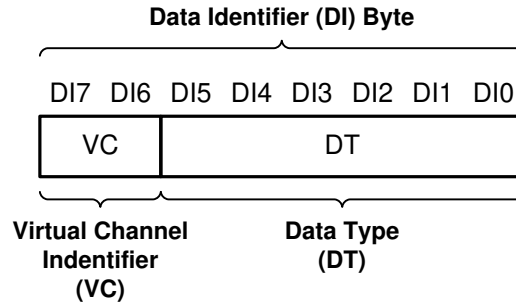

图 5-9. CSI-2 Data Identifier Structure
The DS90UB964-Q1 MIPI CSI-2 protocol interface transmits the data identifier byte containing the values for the virtual channel ID (VC) and data type (DT) for the application specific payload data, as shown in 图 5-9. The virtual channel ID is contained in the 2 MSBs of the data identifier byte and identify the data as directed to one of four virtual channels. The value of the data type is contained in the 6 LSBs of the data identifier byte. The received RAW mode data is converted to CSI-2 Tx packets with assigned data type and virtual channel ID.